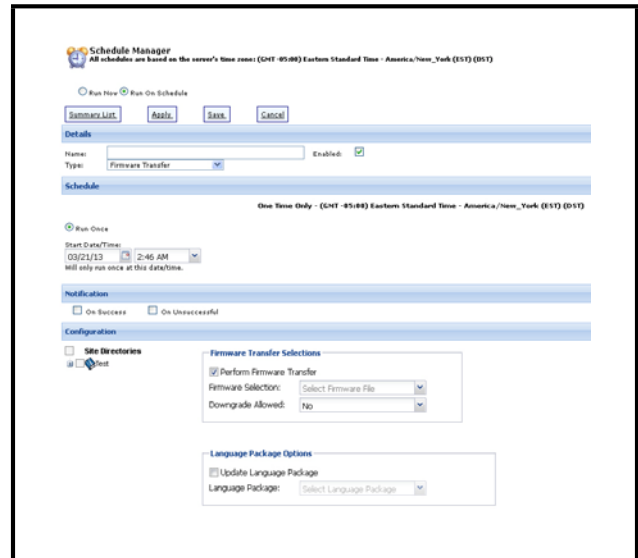

Figure 6-32 - Schedule Firmware Transfer
- If you choose to Run the Firmware Transfer on a schedule (*Figure 6-32*):
the **Language Package** drop-down list, and selecting the target control systems where the update will be applied. The language package update activity can be run exclusively or as a sub-activity of Firmware Transfer via the Firmware Transfer Scheduler (*Figure 6-32*).